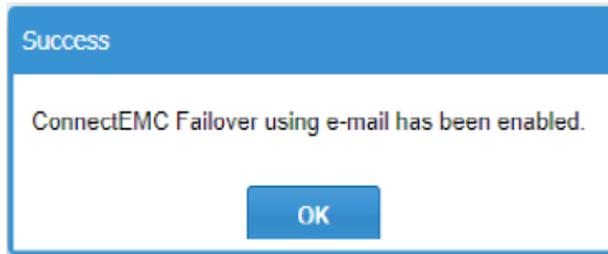

Figure 44 Success message for enabling failover using FTPS
1. Select or deselect the Connect Home connection(s). The **Test** button becomes enabled and a success message appears, as shown in Figure 44 on page 44.